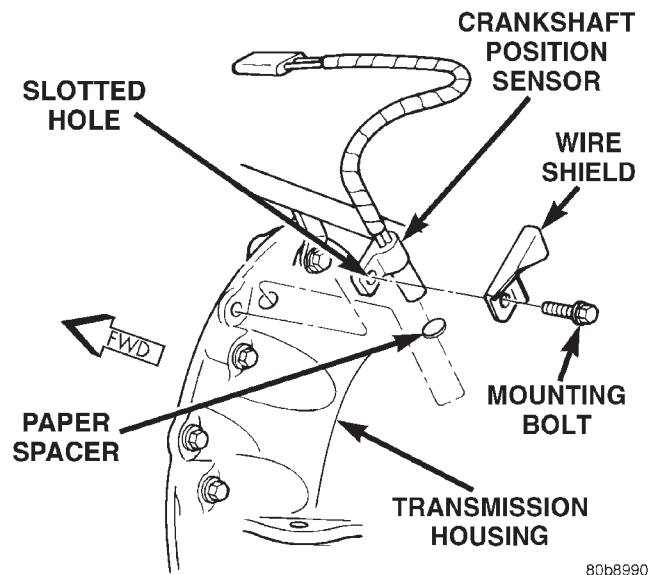
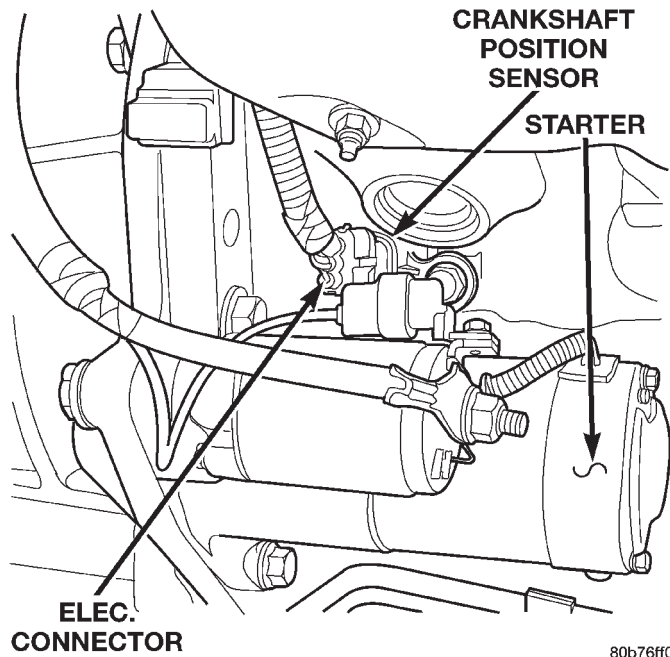

Fig. 8 Crankshaft Position Sensor—4.0L Engine
Fig. 9 Crankshaft Position Sensor—4.7L V-8 Engine
(6) Verify crankshaft position sensor wire connector is firmly connected (Fig. 8) or (Fig. 9).
(7) Verify generator output wire (B+ wire) and generator field connector are firmly connected to generator.
(8) Inspect system body grounds for loose or dirty connections. Refer to Group 8, Wiring for ground locations.
(9) Verify crankcase ventilation (CCV) operation. Refer to Emission Control System for additional information.
(10) Inspect all fuel line quick-connect fittings for damage or leaks.
(11) Verify hose connections to all ports of vacuum fittings on intake manifold, and for emission system are tight and not leaking.